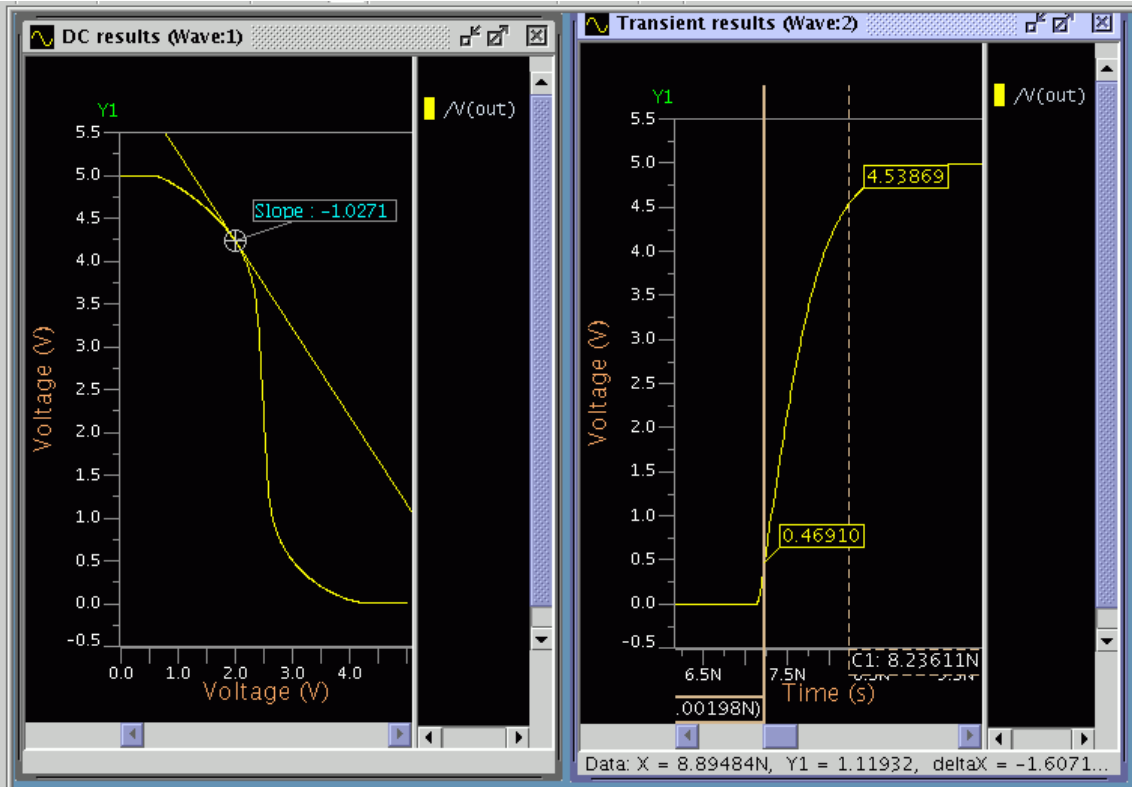

Fig. 20 Finding voltage gain and rise time
2. Determine the *noise immunity* of the inverter by finding those two points of the curve where the slope is just -1. The distance of these points from the end of the curve (0 or VDD, respectively) can be regarded as the *noise margin*. (One of them is shown in Fig. 20.)
at 0.5V and 4.5V, respectively. So you can read the rise and fall time values (Fig. 20.)